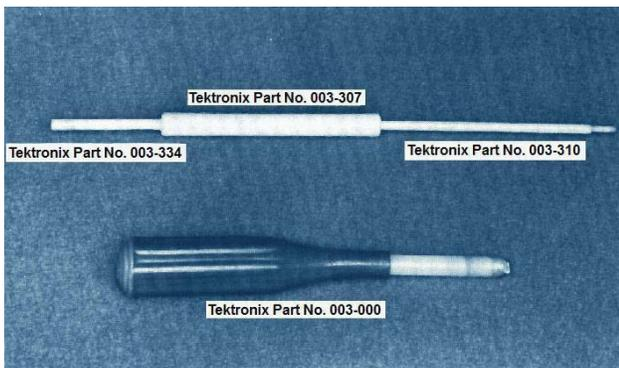

Fig. 5.1. Suggested Calibration Tools.
- (4.) Low-Capacitance Calibration tools: See Figure 5.1.